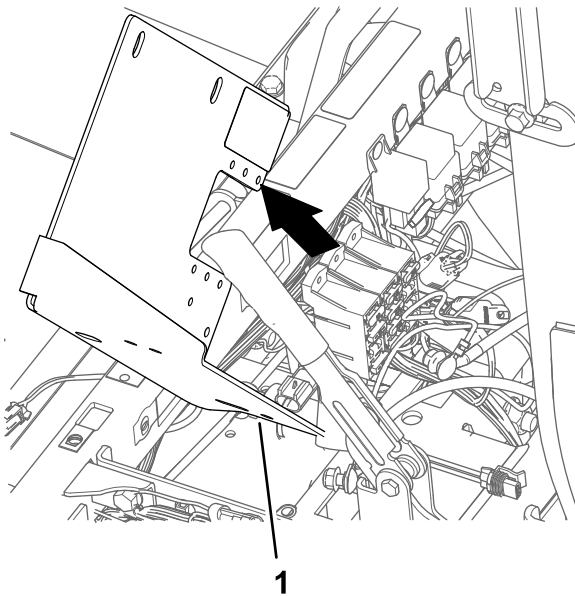

Figure 214
7. Remove the battery bracket from the machine (Figure 214).